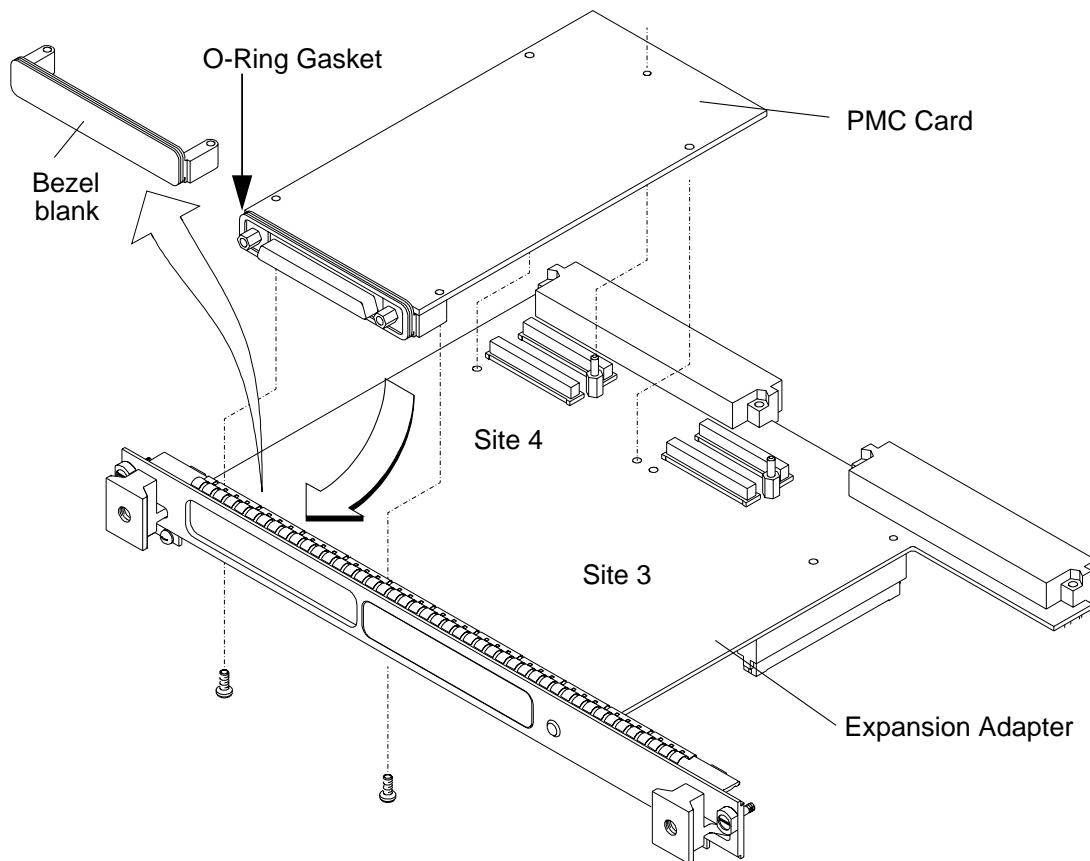

Figure 2-7 Installing a PMC Card onto the Expansion Adapter
- 5 On the PMC expansion adapter, remove the bezel blank(s) from the sites where you will be installing the PMC card(s). See Figure 2-7.
keying pin. See Figure 2-7.